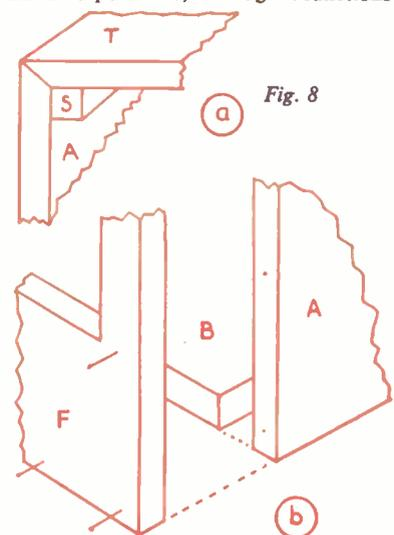

Fig. 8
Use $\frac{1}{4}$ in. thick plyboard for top, sides and front, with $\frac{1}{8}$ in. or $\frac{1}{16}$ in. for the bottom. The top and sides can be obtained ready veneered (walnut is recommended). The edges of the top are chamfered off at 45°, and so are the top edges of the sides. These are held together with glue and very thin panel pins with a square fillet to help the joint (see (a) Fig. 8).
The joining of the sides (A) with the bottom (B) is shown in Fig. 8(b). Here again, glue and thin pins and perhaps another fillet complete the joining.